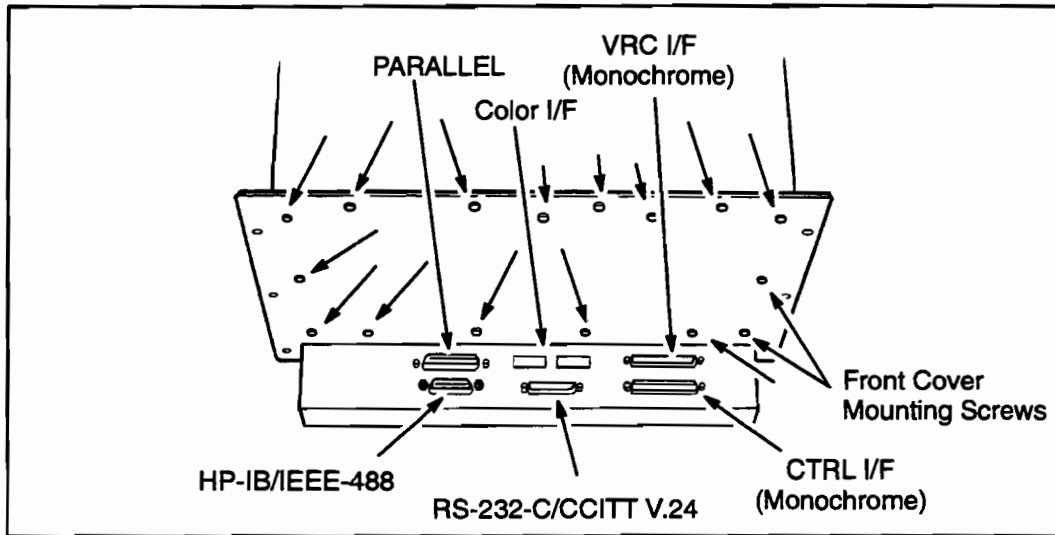

Figure 6-96. VRC Front Cover Removal
1. Switch the plotter OFF (O) and disconnect the ac power cord.
5. Using a 2 pt. Pozidriv screwdriver, remove the front cover mounting screws and remove the front cover. See Figure 6-96.
6. Using a 3/16 in. nut driver, remove the six screws that secure the VRC I/F, CTRL I/F, and RS-232-C connectors. See Figure 6-96.